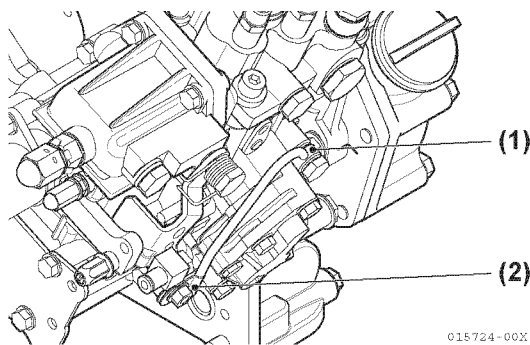

Figure 6-56
13. Disconnect the lubricating oil line (Figure 6-56, (1)) and the clamp (Figure 6-56, (2)) from the pump. **NOTICE:** Take care not to damage or bend the oil line. For 4JH4AE models, it may be preferable to remove the complete oil line assembly from the engine before proceeding.